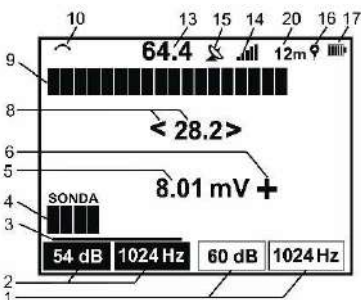

Fig. 20 Display in „Track-SENSOR” mode
- „TRACE-SENSOR – to locate the utility insulation damage and detect the depth of damaged area; to detect the short-circuited areas or wire break and select the conductors in the multicore cables. The display of this mode is shown in Figure 20.